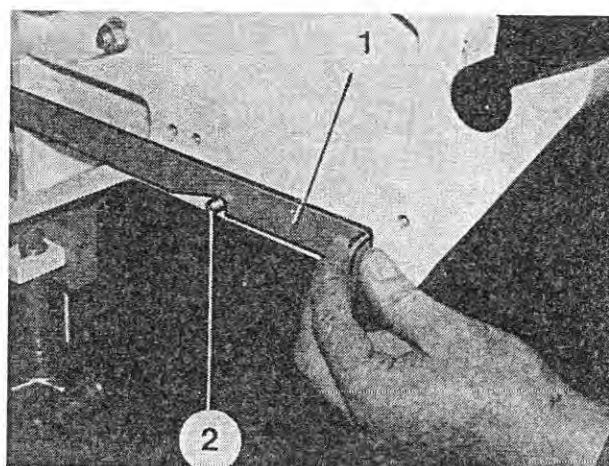

Fig. 130
6. Raise the pendulum, using the lever (Figure 130/1). Fix the lever in the recess (Figure 130/2).